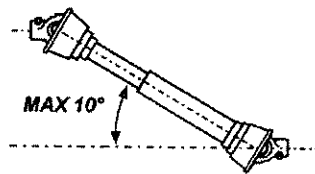

Figure 5
The working angle of the P.T.O. has to be the smallest possible; preferably it should not exceed 10° (Fig. 5), so has to make the P.T.O. shaft and the machine last longer.
- 6 - The working angle of the P.T.O. has to be the smallest possible; preferably it should not exceed 10° (Fig. 5), so has to make the P.T.O. shaft and the machine last longer.